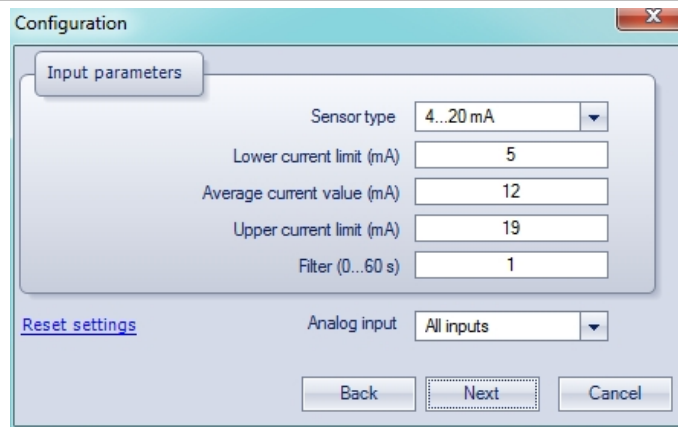

Fig. E.3
7. Select the type of input signal and set the other calibration parameters (Fig. E.3).